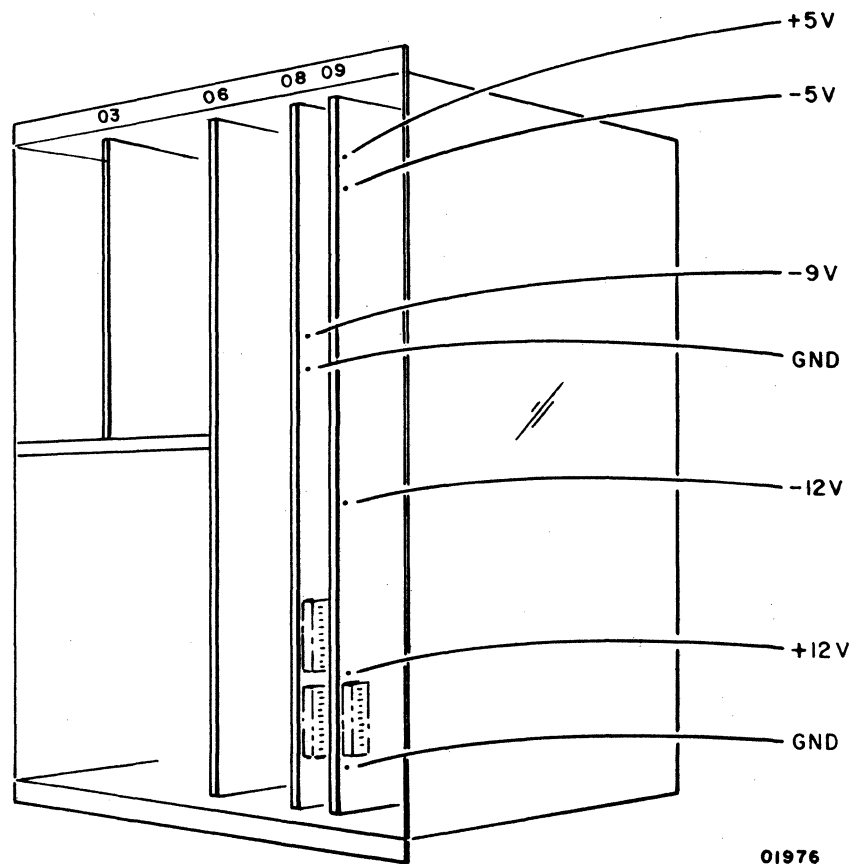

Figure CRT34. Memory and Processor Voltage Test Points
- 16) Apply red (+) lead to GND on board 08 (figure CRT34).
- 17) Apply black (-) lead to -9-V dc test point on board 08 (figure CRT34).
- 20) Apply black (-) lead to -12-V dc test point on edge of board 09 (figure CRT34).
- 21) Apply red (+) lead to GND on board 09 (figure CRT34).
- 24) Apply red lead to +12 test point on edge of board 09 just below test point 24 (figure CRT34).
- 25) Apply black (-) lead to GND on board 09 (figure CRT34).
- 28) Apply black (-) lead to -5-V dc test point on edge of board 09 (figure CRT34).
- 29) Apply red (+) lead to GND on board 09 (figure CRT34).